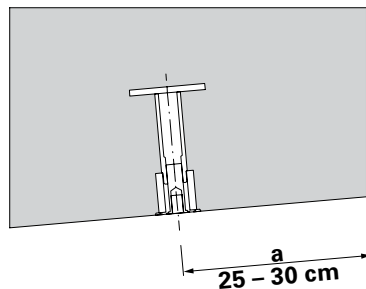

Fig. A3.03
- Maintain the selected dimension "b" over the entire length of the bridge. (Fig. A3.03)
Note: edge spacing "a" and distance to sides "b1" and "b2". (Fig. A3.03 + Table A3.01)
2. Push Cone FRC Ø 32/52 (11) over the thread of the Anchor Positioning Stud.
3. Screw Anchor Sleeve M24 (9) onto the Anchor Positioning Stud M24 as far as possible. (Fig. A3.03)
4. Secure Anchor Sleeve M24 (9) in the reinforcement using tie wire.